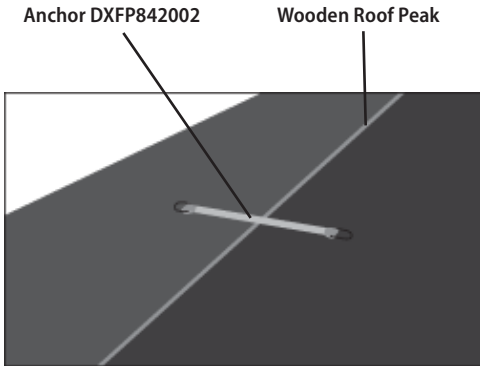

Fig. 1
- Place the anchor plate to match the surface it will be mounted on, either a roof peak or flat surface. Refer to fig.1.